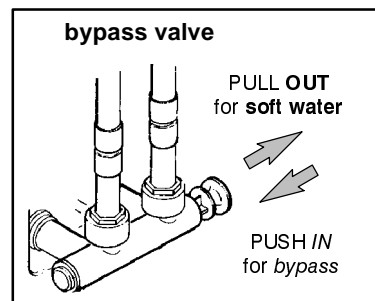

Figure 2
11. Plug transformer back into electrical outlet. Pull bypass valve stem out for soft water position. **See Figure 2.**